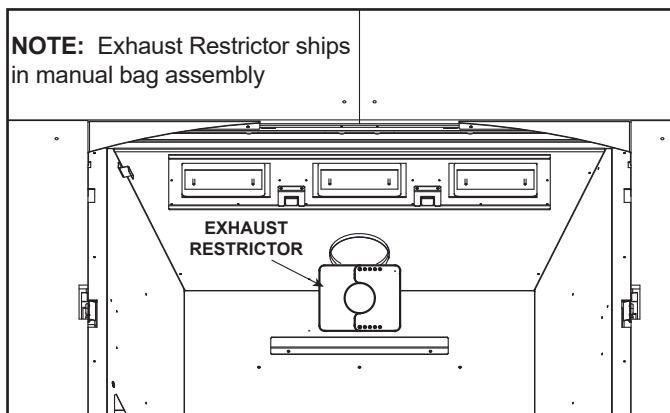

Figure 4.12 Exhaust Restrictor Installation
5. Center the two exhaust restrictor pieces on the vent at the setting selected in step 3 and secure in place by using two self-tapping screws. See Figure 4.12.